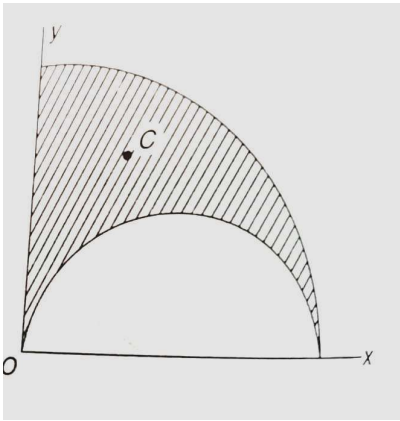

Figure 3.8
- Locate the centroid C of the shaded area obtained by cutting a semicircle of diameter 'a' from the quadrant of a circle of radius 'a' as shown in the Figure 3.8